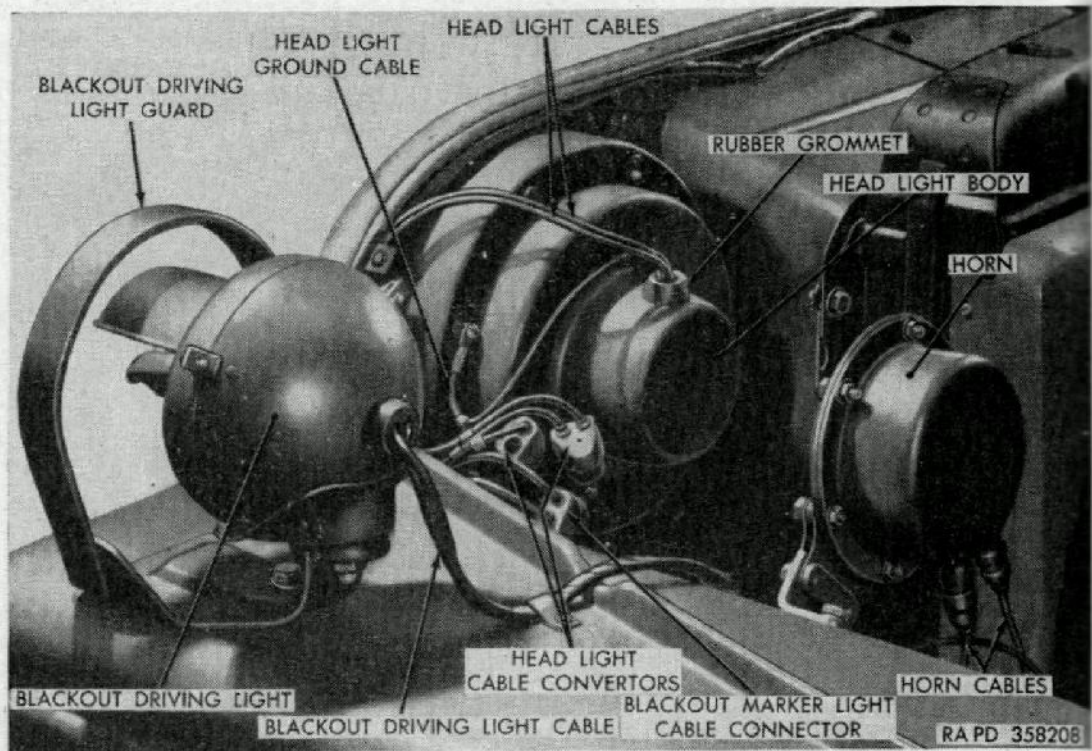

Figure 83. Headlight, blackout driving light, and horn installed.
- (4) *Blackout driving light* (fig. 83). The blackout driving light is located on the forward section of the left front fender. This blackout driving light is a waterproof, sealed beam type. Operated by the light switch (G, fig. 6), the blackout driving light furnished a diffused, low-intensity light beam to be used when the tactical situation does not permit use of service headlights.
- (1) *Removal.*
- (a) Remove sealed-beam lamp unit (b above) and remove rubber grommet (fig. 83) and headlight cables (fig. 83) from headlight body. Remove screw and internal-tooth lock washers securing headlight ground cable (fig. 83) to grille.
- (b) Install rubber grommet with headlight cables (fig. 83) in headlight body. Connect headlight ground cable (fig. 83) to grille with screw and internal-tooth lock washers. Install sealed-beam lamp unit (b above).
- (1) *Removal.* Disconnect blackout driving light cable (fig. 83) at connector on left fender. Remove blackout driving light cable from clips attaching it to fender. Remove three cap screws and lock washers attaching blackout driving light guard to left fender and remove blackout driving light with guard attached.
- (2) *Installation.* Position blackout driving light with guard attached on left fender and secure with three cap screws and lock washers. Attach blackout driving light cable to clips in left fender and to connector.
*a. Removal.* Disconnect horn cables (fig. 83) at connectors on horn. Remove two cap screws and lock washers attaching horn and horn bracket to inside of left fender and remove horn with bracket attached.
*b. Installation.* Install horn with bracket attached on inside of left front fender and secure with two cap screws and lock washers. Connect horn cables (fig. 83) at connectors on horn.